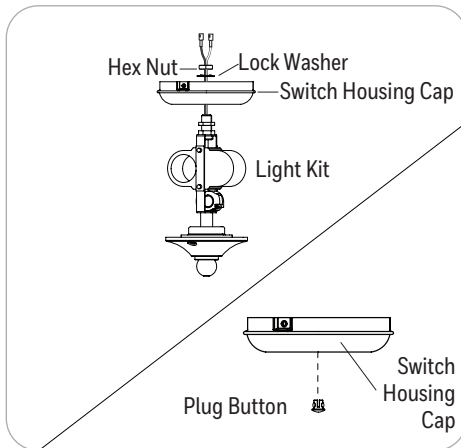

Figure 5.1
1. Remove the preassembled hex nut and lock washer from inside the switch housing cap. Then remove the light kit from the switch housing cap. Install the plug button (Figure 5.1).